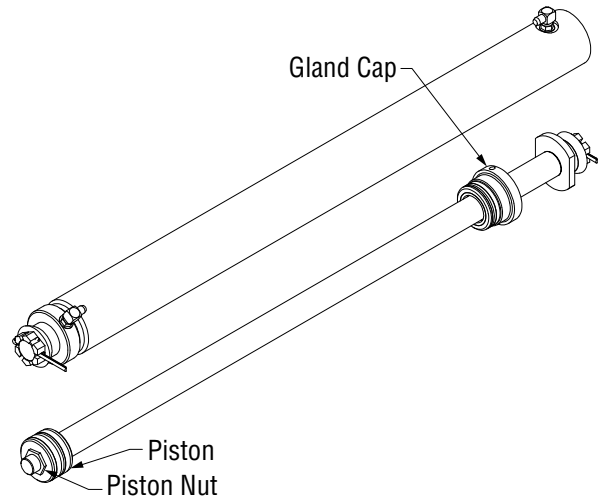

Figure 5-8, Cylinder Rebuild
3. Use a spanner wrench or similar tool to unscrew the gland cap from the cylinder tube. (Figure 5-8)
6. Remove the piston retaining nut and remove the piston. (Figure 5-8)